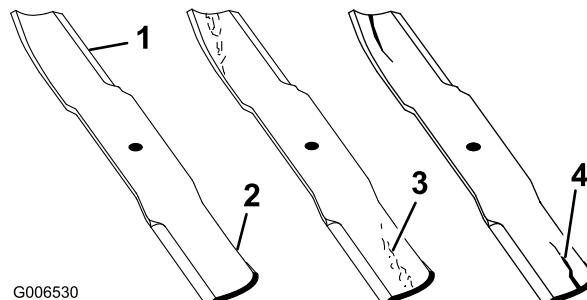

Figure 46
1. Inspect the cutting edges (Figure 46). If the edges are not sharp or have nicks, remove and sharpen the blades. Refer to Sharpening the Blades.
2. Inspect the blades, especially the curved area (Figure 46). If you notice any damage, wear, or a slot forming in this area (item 3. in Figure 46), immediately install a new blade.